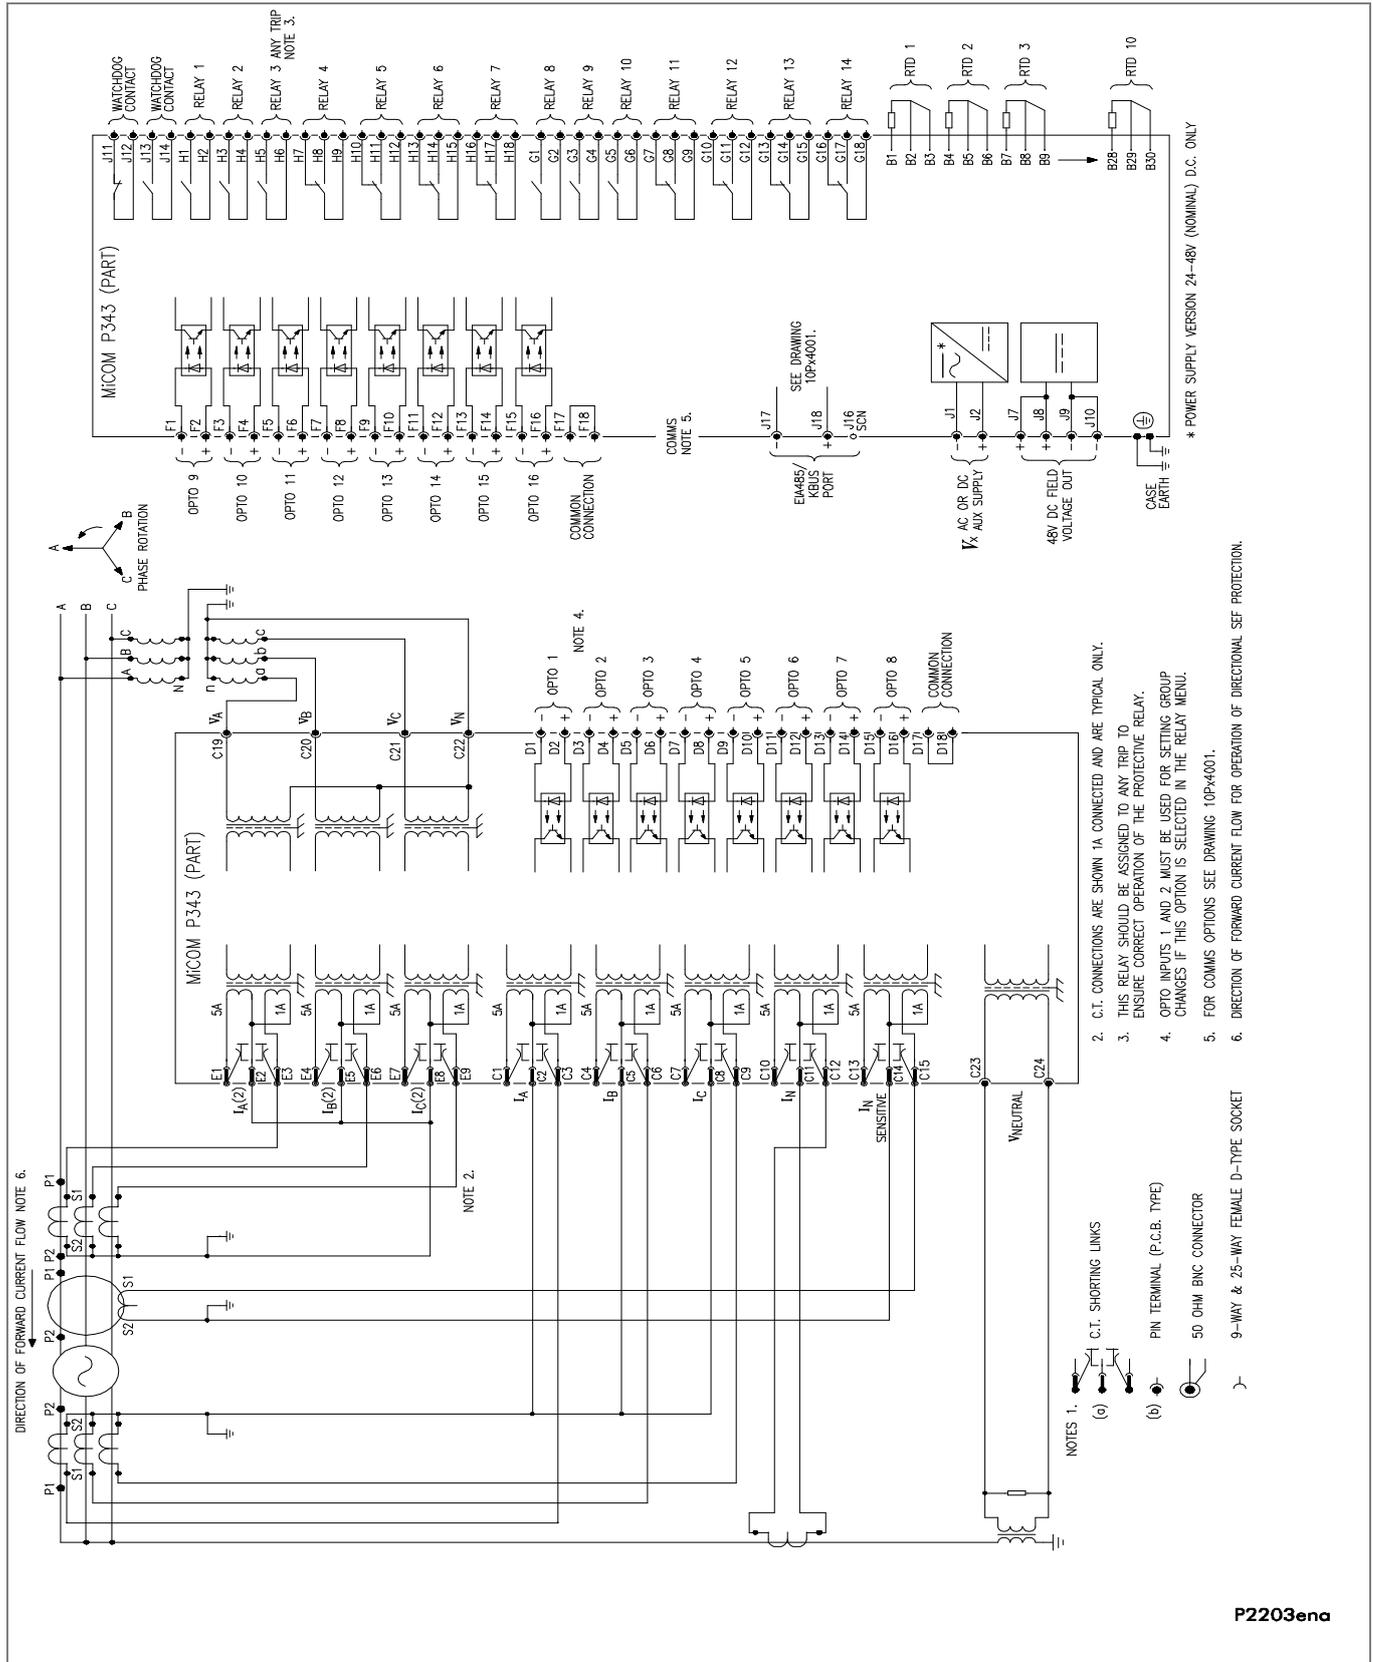

Figure 22 - P343 (60TE) for biased differential (16 I/P & 14 O/P & RTD's)
- Figure 22 - P343 (60TE) for biased differential (16 I/P & 14 O/P & RTD's)